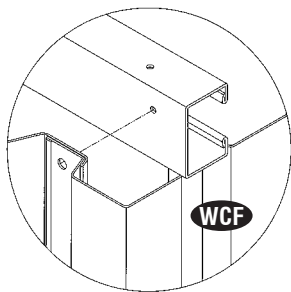

Fig.1
4. Place the sliding channel right (SRA) on top of the wall panel (WFR) from inside. See the position in fig.1. Line up the holes with wall panel. Use (S1) screws with washers to fix. See fig. 2 .